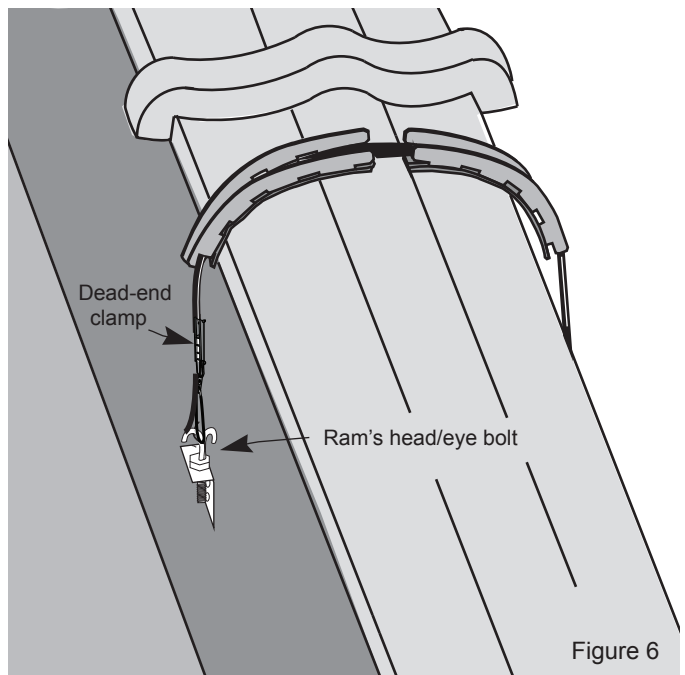

Figure 6
5.8 Secure the cable leader to the inside of the knee wall with a ram's horn/eye bolt and a dead-end clamp (Figure 6). After the clamp is secured, cut off any excess cable slack and seal the end of the cable per your company's standard practices.